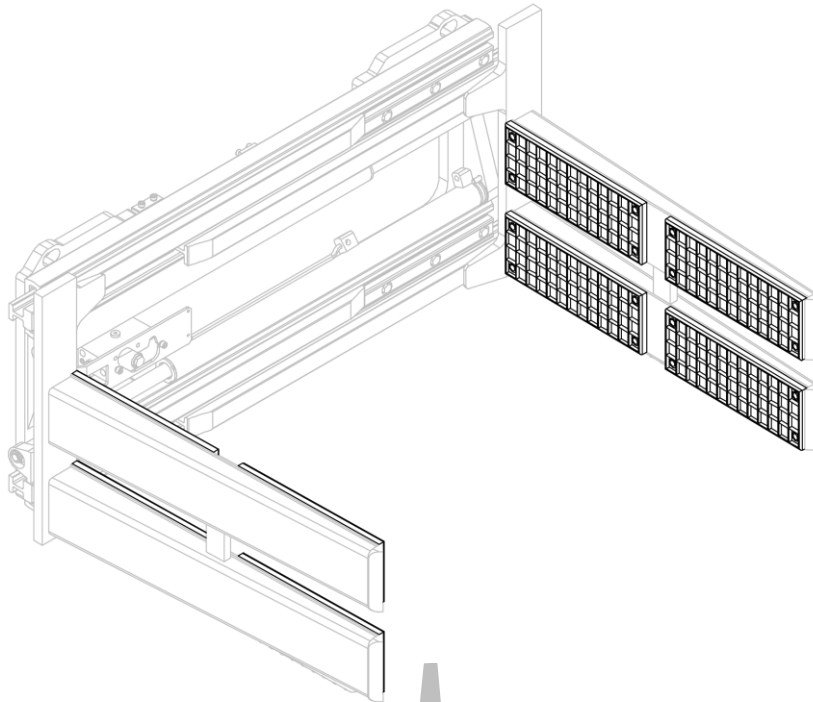
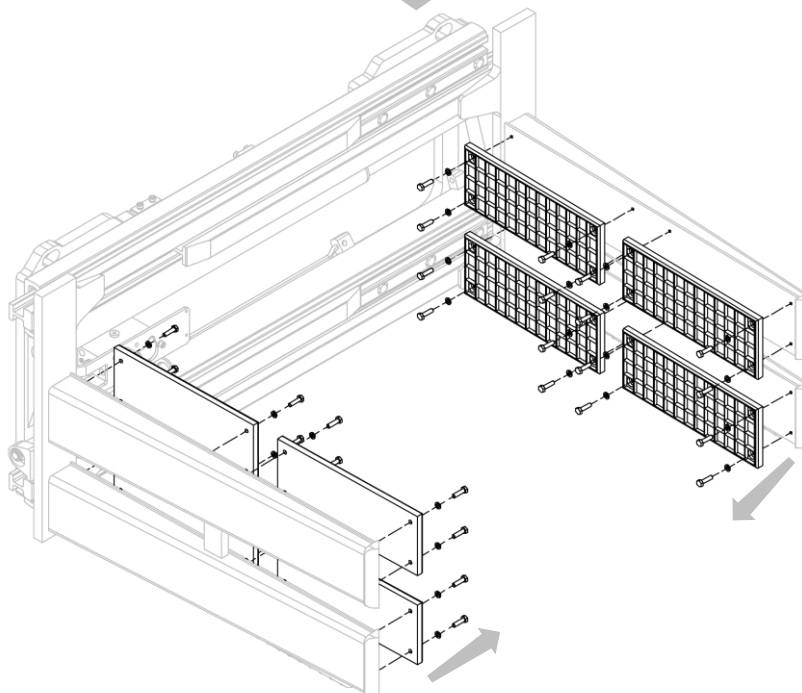

Figure 31
Figure 32
3. Remove the rubber pads from the forks after removing the associated bolts (see *Figure 31* and *Figure 32*).